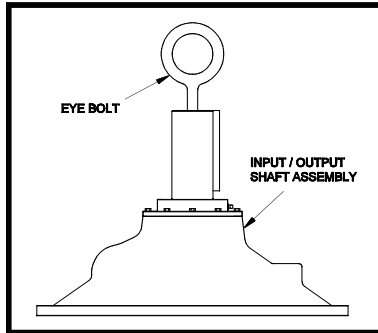

Figure 6.3.1—Proper Lifting of Input or Output Shaft Assemblies
7. Remove assembly by lifting it straight up away from the maincase. An eye bolt can be used in the threaded end of the shaft to lift the assembly; **reference Figure 6.3.1. DO NOT LIFT ENTIRE REDUCER BY THE THREADED HOLE ON EITHER SHAFT.**